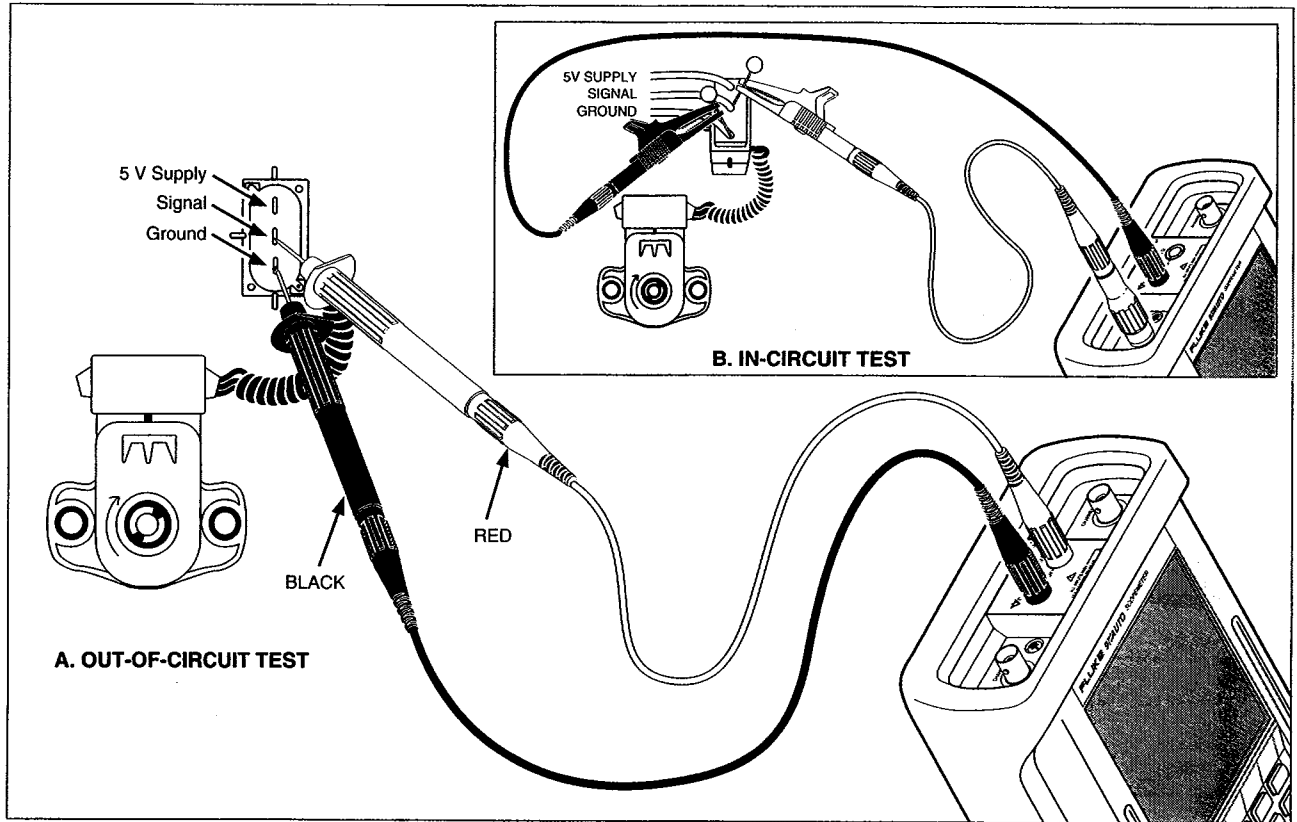
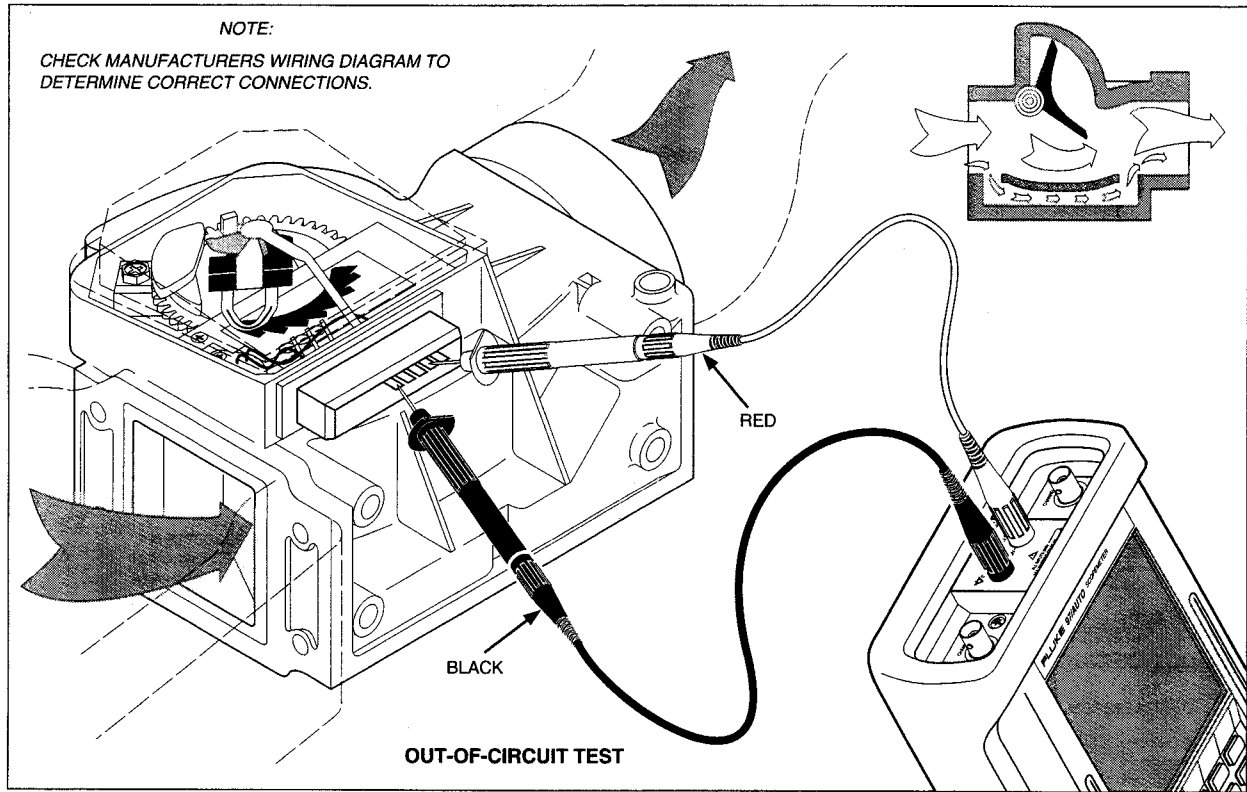

Figure 5-4. Testing a Throttle Position Sensor (TPS)
Figure 5-5. Testing an Air Flow Meter
- 1 Connect ScopeMeter to the sensor as shown for out-of-circuit measurements in Figure 5-4(A) or Figure 5-5.
Connect ScopeMeter to the sensor for in-circuit measurements. See Figure 5-4(B) or Figure 5-6. Use a backprobe pin, breakout box, or jumper wire for the connection to Channel A.